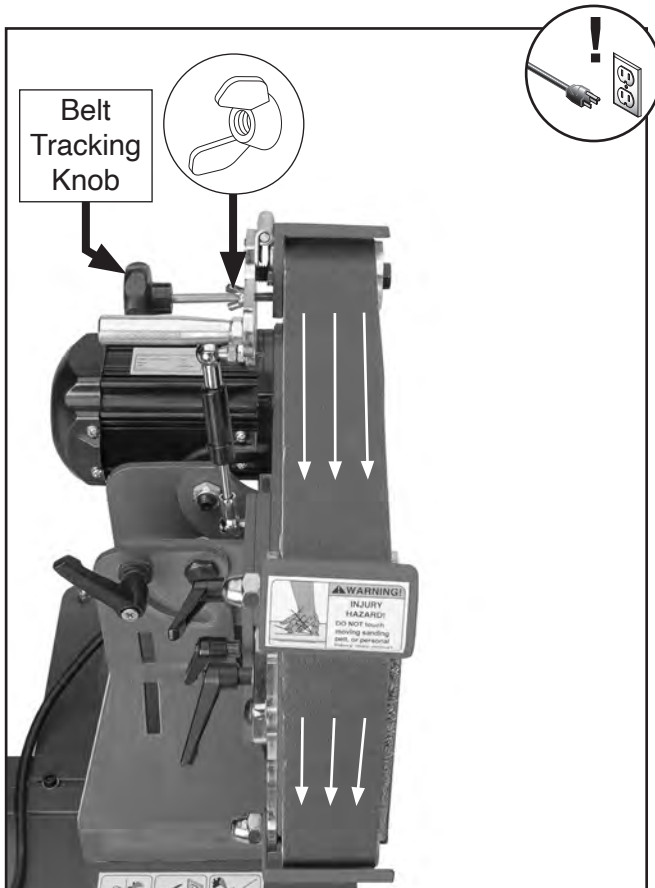

Figure 15. Belt tracking components.
3. Loosen wing nut shown in **Figure 15**.
4. Standing in front of machine, push belt multiple times along platen so it moves in direction of operation (see **Figure 15**), then watch how belt tracks on wheels.
5. Use belt tracking knob (see **Figure 15**) to adjust belt tracking while continuing to rotate belt by hand to check adjustment.